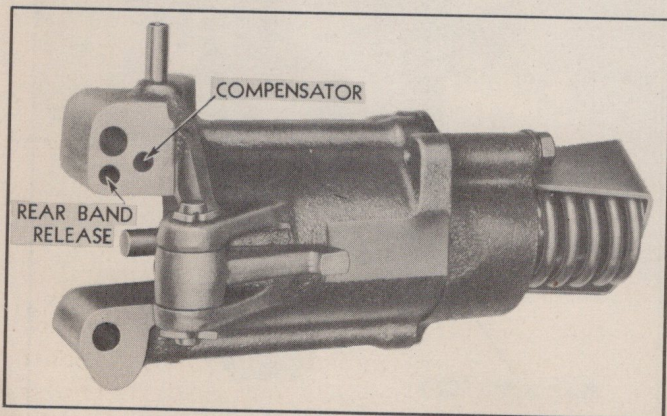

Fig. 287—Oil Passages in Rear Servo
11. Test operation of servo by applying air pressure in the rear band release passage (Fig. 287).